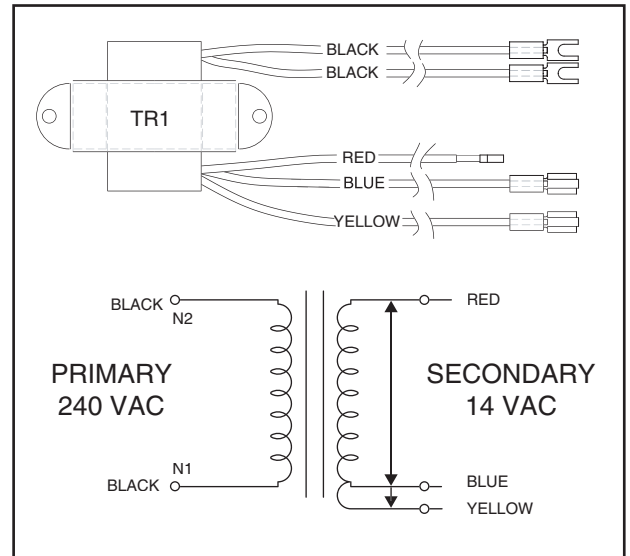

Figure 16. The Sensing Transformer
1. See Figure 16. Connect an AC voltmeter across Primary Input Leads N1 and N2 (two Black Wires). Normal "Utility" power source voltage should be indicated.